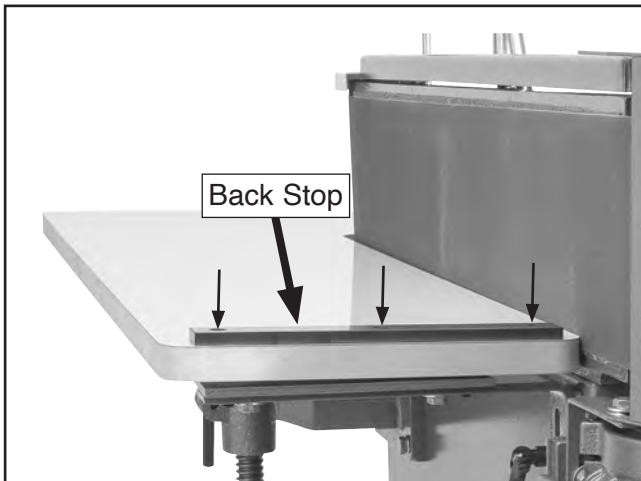

Figure 31. Back stop mounting hole locations.
18. Clamp table to L-brackets and table leadscrew bracket, then secure table brackets to table with (16) #8 x $\frac{3}{4}$ " tap screws.
19. Align back stop with edge of table (see **Figure 31**), then use square to square back stop to platen.
20. Mark (3) back stop mounting holes, remove back stop, then drill $\frac{1}{8}$ " diameter pilot holes in table (see **Figure 31**).